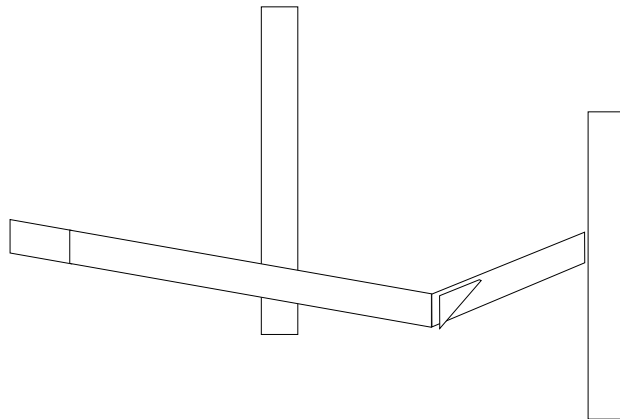

Figure 2-4 Mounting the Switch in a Rack
Step5: After the brackets are attached to the Switch, use suitable screws to securely attach the brackets to the rack, as shown in Figure 2-4.